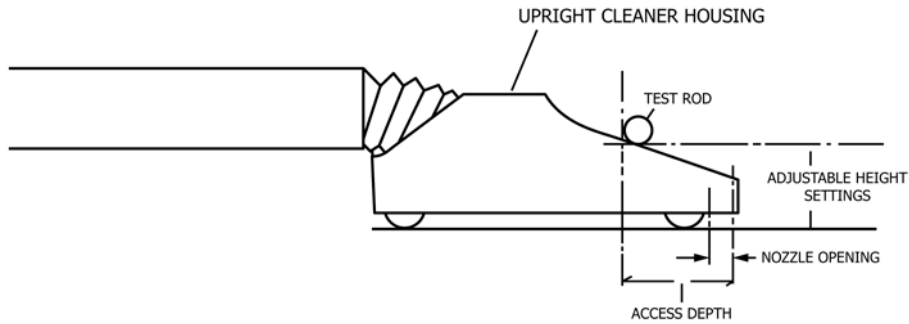

FIG. 1 Access Depth for Upright Vacuum Cleaners
7.1 *Upright Vacuum Cleaners* (Fig. 1):